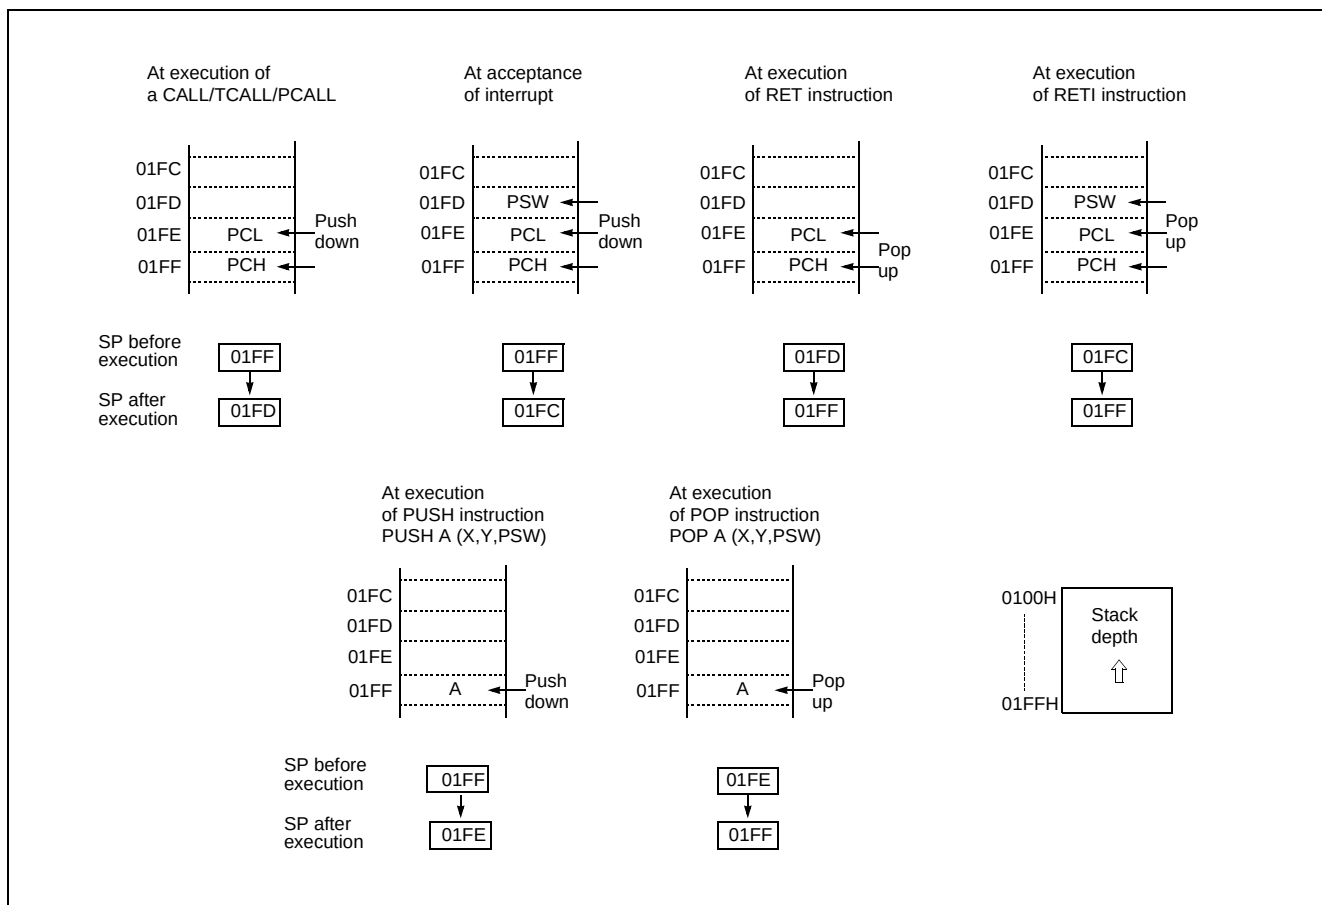

Figure 8-3 Stack Operation
The save/restore locations in the stack are determined by the stack pointed (SP). The SP is automatically decreased after the saving, and increased before the restoring. This means the value of the SP indicates the stack location number for the next save. Refer to Figure 8-3 on page 22.